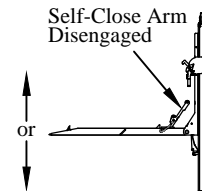

Figure 7: Step 9.
- Step 9. To raise (or lower) the load, push up (or down) on the control toggle switch until the load has reached the desired position. **Be sure the self-close arm is disengaged.** Do not allow the pump and motor to continue to run after the platform has reached its maximum height or after it has reached an obstruction (Figure 7).